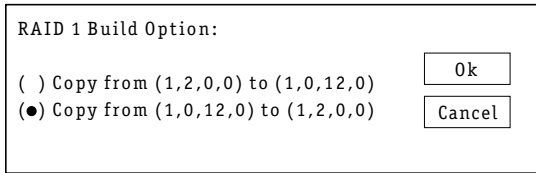

Figure 2-17. RAID 1 Build Option Window
- 5 If you are creating a RAID 1 array, the RAID 1 Build Option window appears, as shown in Figure 2-17. RAID 1 arrays are built by copying the existing data from one device to the other. Select the direction for the copy, then select **Ok**.